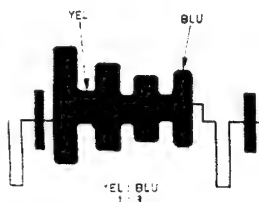

Fig. 4-32
(3) Blue Matrix Adjustment (Figs. 4-32 - 4-36)